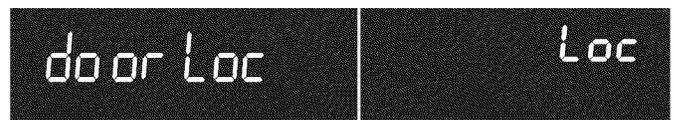

Figure 8: Display showing door locking and in locked position
2. Press and hold  for 3 seconds. (Figure 8) **door Loc** will appear in the display. The motor driven door latch mechanism will begin locking the oven door automatically. Do not open the oven door. Allow about 15 seconds for the oven door to completely lock. Once door is locked, **Loc** will appear in the display.